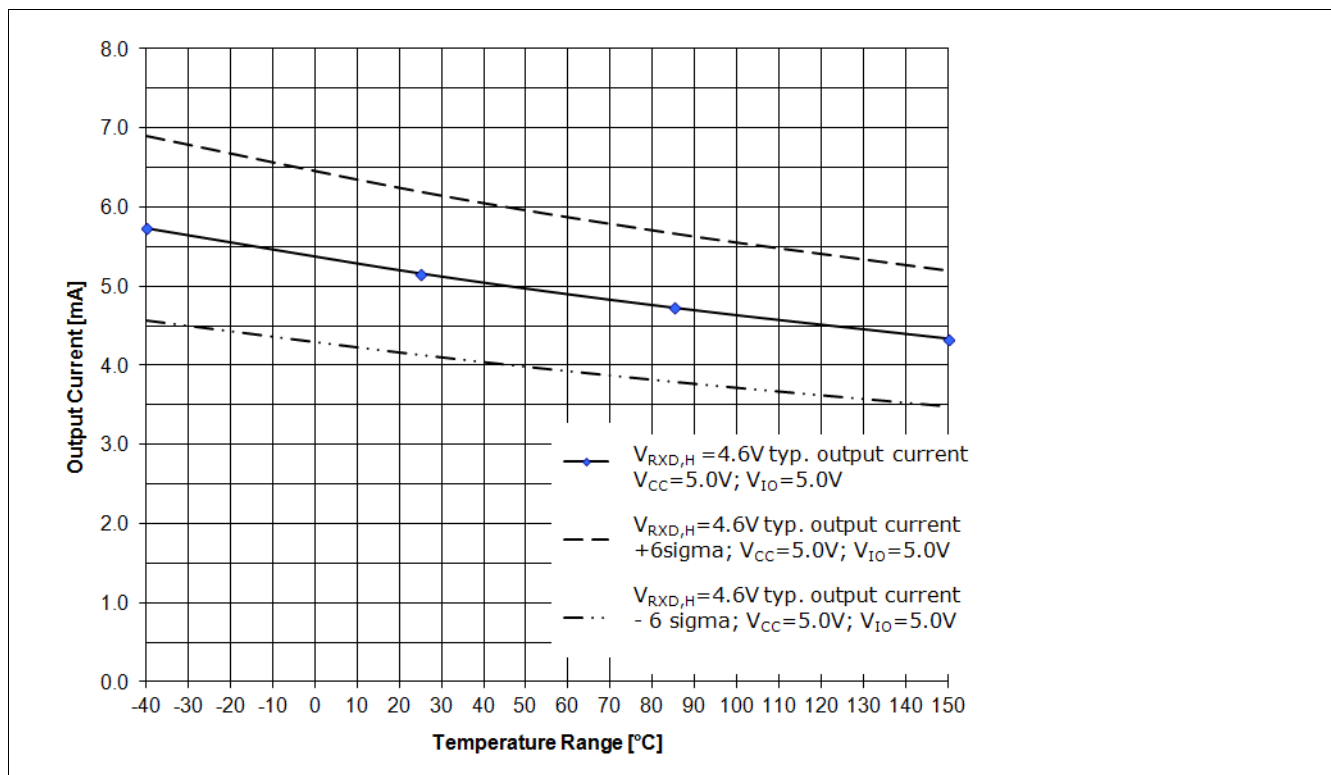
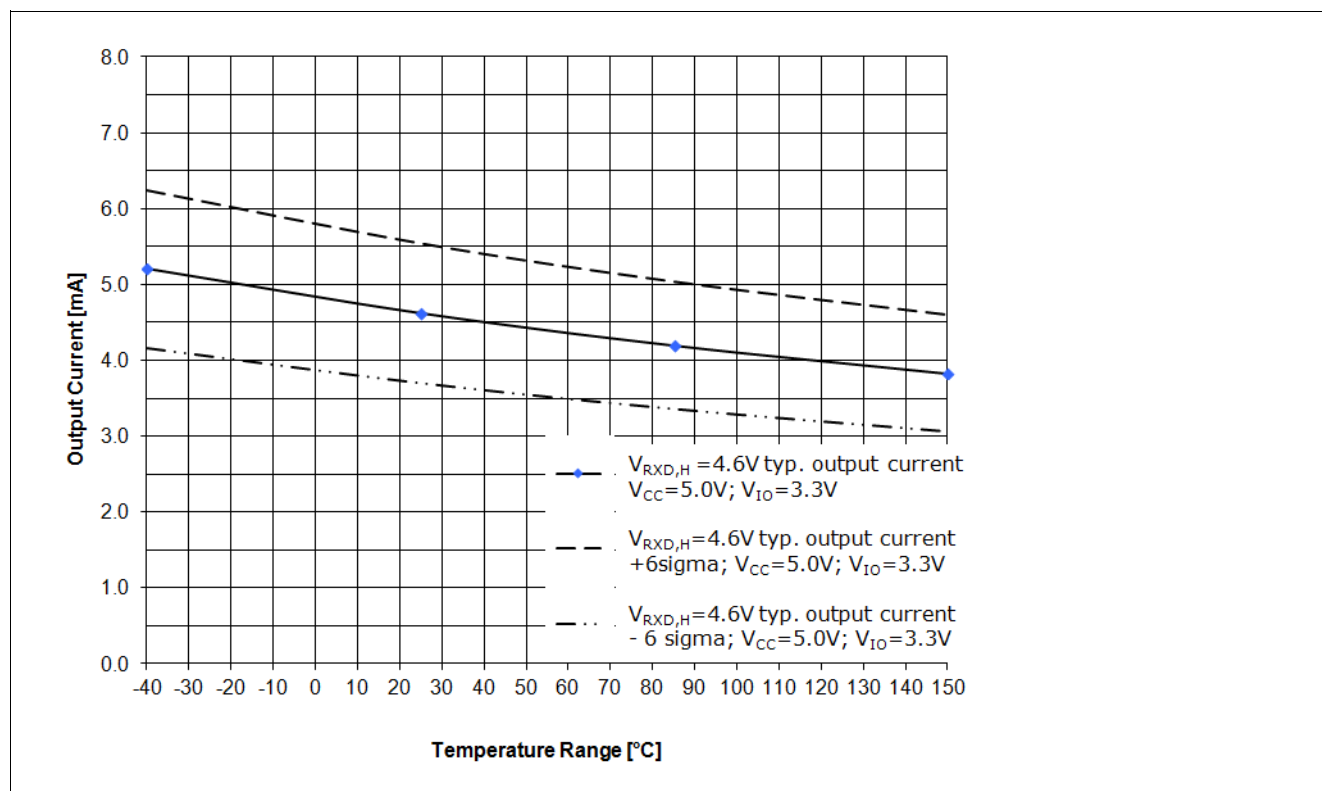

Figure 11 RxD Output driver capability for a logical “High” signal $V_{RxD,H} = 4.6\text{ V}$, $V_{CC} = 5.0\text{ V}$, $V_{IO} = 5.0\text{ V}$ ¹⁾
Figure 12 RxD Output driver capability for a logical “High” signal $V_{RxD,H}=4.6\text{ V}$, $V_{CC}=5.0\text{ V}$, $V_{IO}=3.3\text{ V}$ ¹⁾
The diagram in Figure 11 shows the output current capability of the RxD output pin depended on the chip temperature T_J at a V_{IO} power supply of 5.0 V. Figure 12 shows the output current capability of the RxD output pin at a V_{IO} power supply of 3.3 V.
- The curve “VRxD,H = 4.6 V; typ. output current; VCC = 5.0 V; VIO = 5.0 V;” displays the typical output current at the RxD output pin of the TLE8250GVIO (see Figure 11).
- The curve “VRxD,H = 4.6 V; typ. output current + 6 sigma; VCC = 5.0 V; VIO = 5.0 V;” displays the expected maximum value of the output current at the RxD output pin (see Figure 11).
- The curve “VRxD,H = 4.6 V; typ. output current - 6 sigma; VCC = 5.0 V; VIO = 5.0 V;” displays the expected minimum value of the output current at the RxD output pin (see Figure 11).
- The curve “VRxD,H = 4.6 V; typ. output current; VCC = 5.0 V; VIO = 3.3 V;” displays the typical output current at the RxD output pin of the TLE8250GVIO (see Figure 12).
- The curve “VRxD,H = 4.6 V; typ. output current + 6 sigma; VCC = 5.0 V; VIO = 3.3 V;” displays the expected maximum value of the output current at the RxD output pin (see Figure 12).
- The curve “VRxD,H = 4.6 V; typ. output current - 6 sigma; VCC = 5.0 V; VIO = 3.3 V;” displays the expected minimum value of the output current at the RxD output pin (see Figure 12).